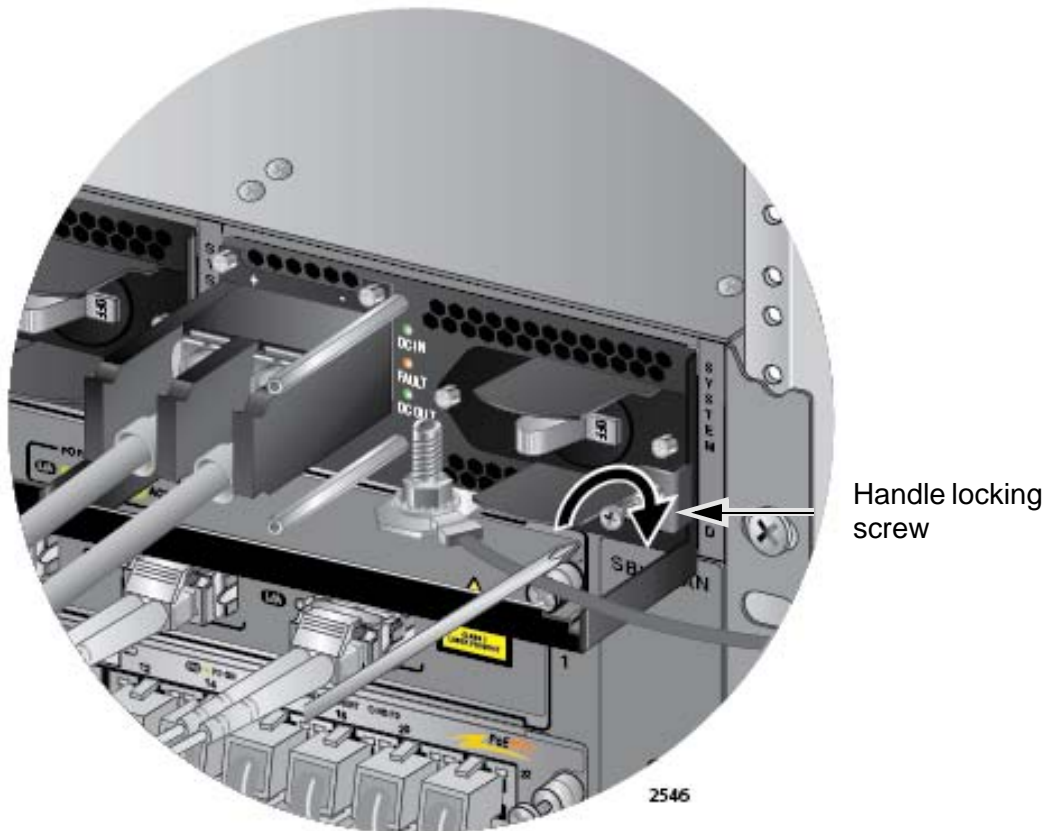

Figure 140. Tightening the Handle Locking Screw
8. With a #2 Phillips-head screwdriver, tighten the handle locking screw to secure the power supply to the chassis. See Figure 140 on page 201.